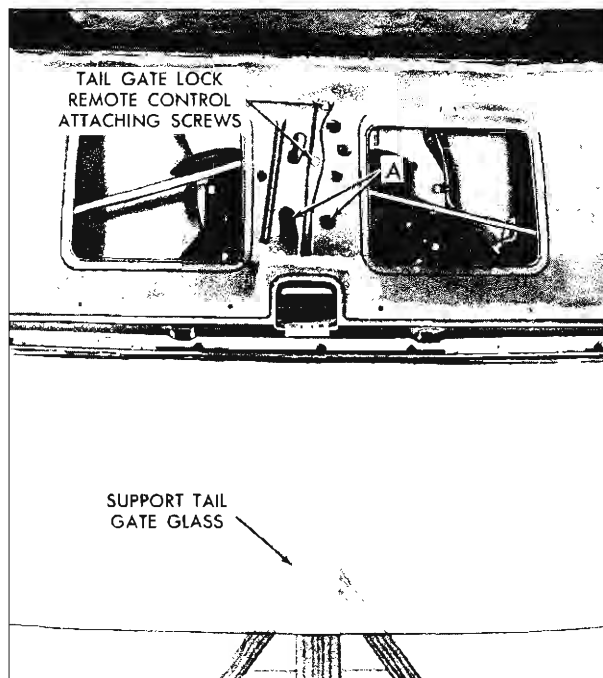

Fig. 5-13 Removing Outside Handle Assembly
2. Detach tail gate inner panel water deflector sufficiently to gain access to holes "A" for removal of handle attaching units (see Fig. 5-13).
**CAUTION:** Support portion of glass extending out of tail gate (see Fig. 5-13).
2. Detach tail gate inner panel water deflector sufficiently to gain access to holes "A" for removal of attaching nuts (see Fig. 5-13).
2. Loosen tail gate lock remote control attaching screws Fig. 5-13 and move remote control towards bottom of tail gate sufficiently to disengage end of handle push rod from hole in remote control lever.